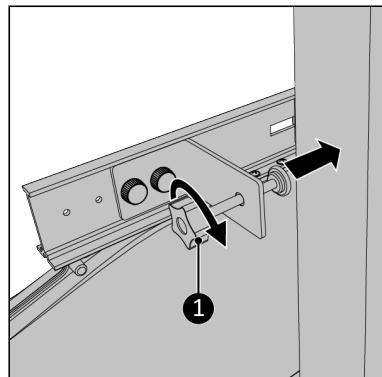

Figure 83.
16. Screw the clamping screw carefully to the window frame (Figure 83, pos. 1).